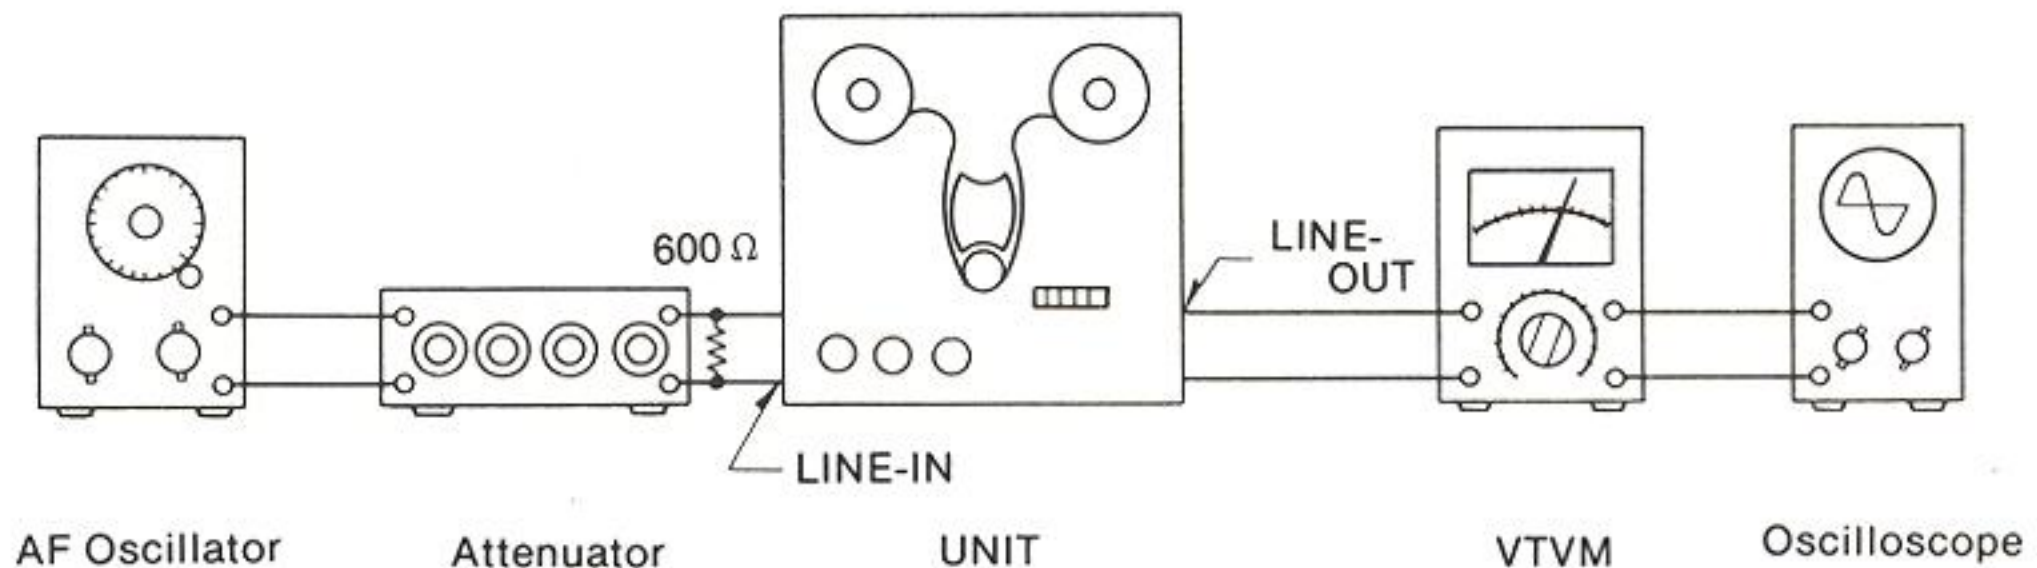
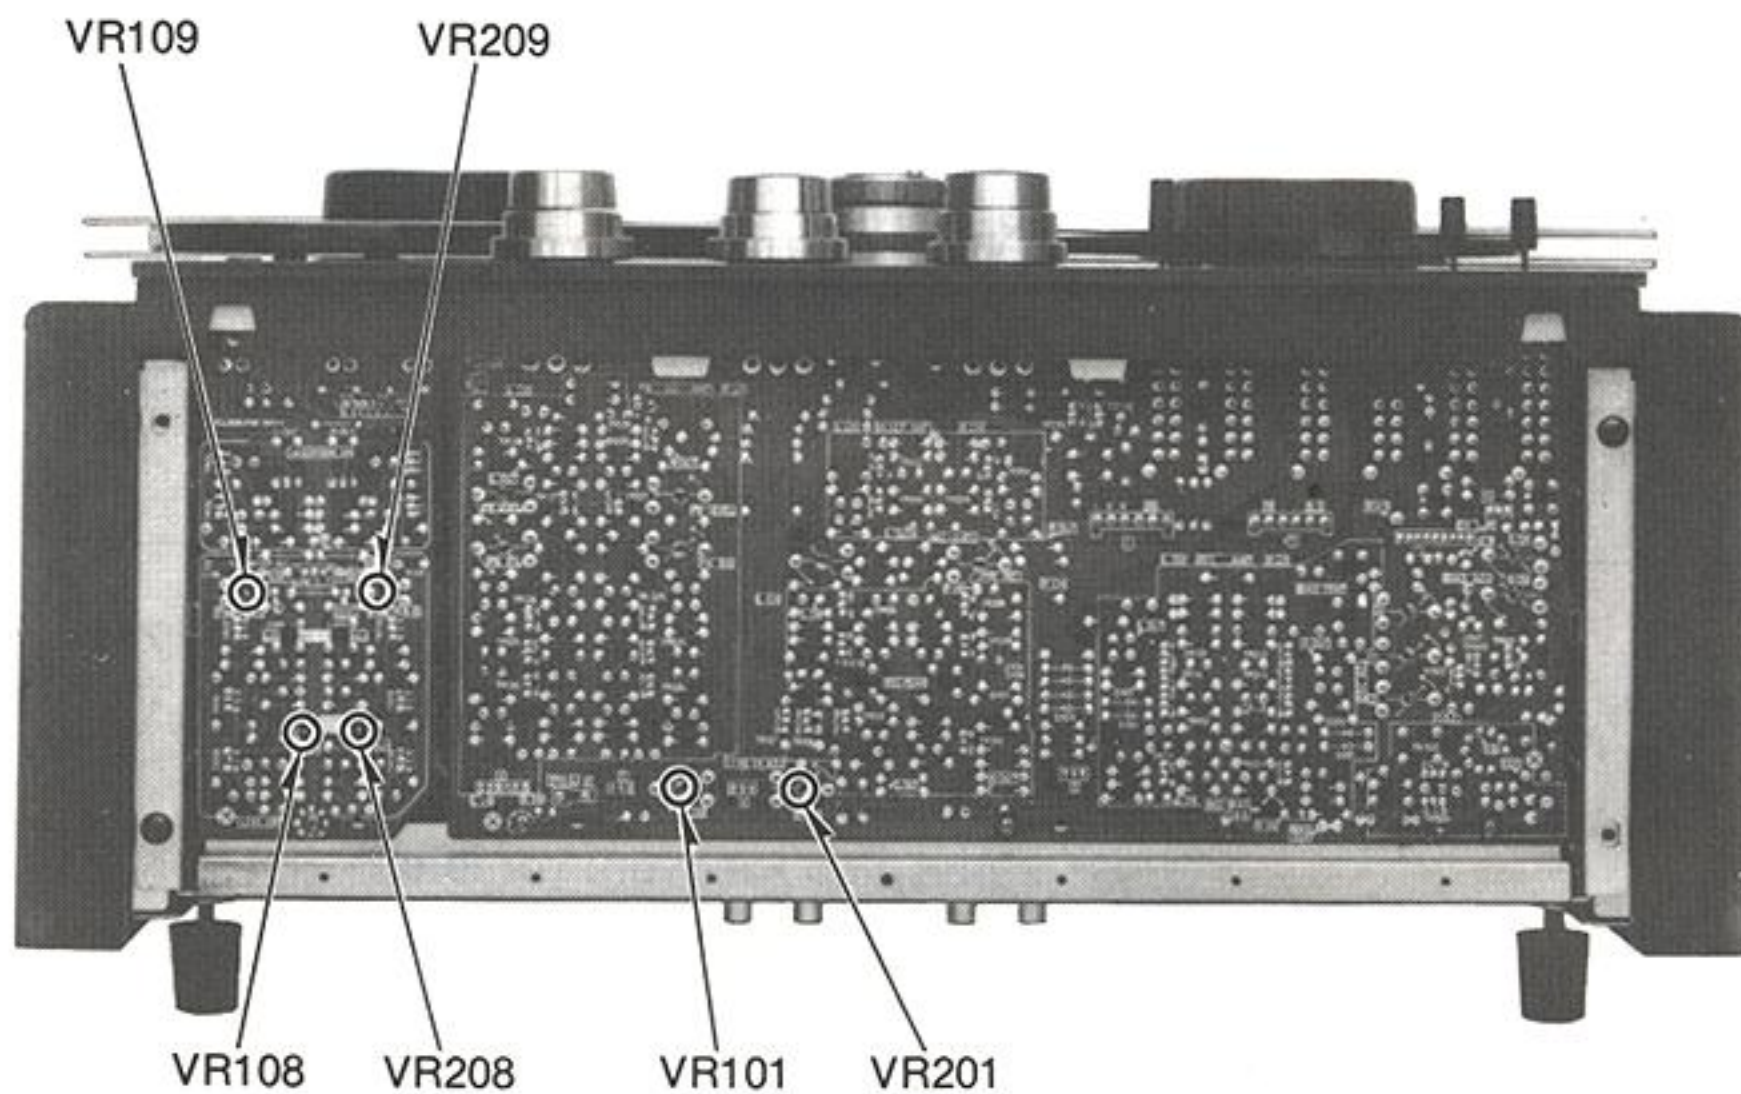

Fig. 36
Fig. 37
1. Test equipment connections are shown in fig. 36.
1. If the measured value is not within standard value, adjust the Line-in level adjustment VR, VR101 (L-CH) and VR201 (R-CH), (See fig. 37.)
<p>Level meter for source monitor</p>	<ol style="list-style-type: none"> 1. Test equipment connections are shown in fig. 36. 2. Set the monitor selector to "SOURCE" position. 3. Set the output control to "8" position on front panel. 4. Supply 1 kHz signal ($-24\text{dB} \pm 3\text{dB}$) from AF oscillator, through ATT, to LINE-IN jacks. 5. Adjust ATT so that the output level at LINE-OUT jacks on VTVM becomes 0.55V. 6. Then confirm that the level meter indicates 0VU position. <p>[Adjustment]</p> <ol style="list-style-type: none"> 1. If the level meter does not indicate 0VU position in the above condition, adjust the level meter adjustment VR, VR108 (L-CH) and VR208 (R-CH). (See fig. 37.) <p>[Confirmation]</p> <ol style="list-style-type: none"> 1. Place unit into the above measurement condition. 2. Set the meter scale selector to "+6dB" position. 3. Confirm that the level meter indicates within $-3 \pm 1\text{VU}$ on "+3dB" scale.
<p>Level meter for tape monitor</p>	<ol style="list-style-type: none"> 1. Test equipment connections are shown in fig. 36. 2. Place unit in the same condition as for "Standard recording level adjustment." 3. Thread "open" blank test tape (QZZORA218EX). 4. Set the meter scale selector to "+3dB" position. 5. Set the monitor selector to "tape" position (both channels). 6. Set the recording mode selector to "ON" position (both channels). 7. Place unit into recording mode. 8. Then confirm that the level meter indicates 0VU. <p>[Adjustment]</p> <ol style="list-style-type: none"> 1. If the level meter does not indicate 0VU in the above condition, adjust the level meter adjustment VR, VR109 (L-CH) and VR209 (R-CH). (See fig. 37.)
- * Measurement instrument connections are as shown in figure 36.